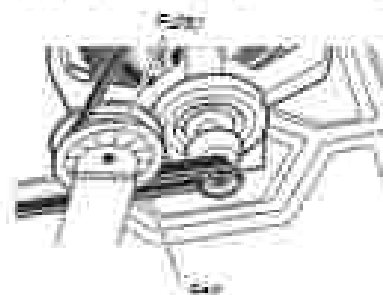

Figure 6 - Slowly remove drum belt.
7. Check the drive motor: Slowly remove the drum belt from the spring-loaded pulley, gently testing the pulley down. See figure 6.